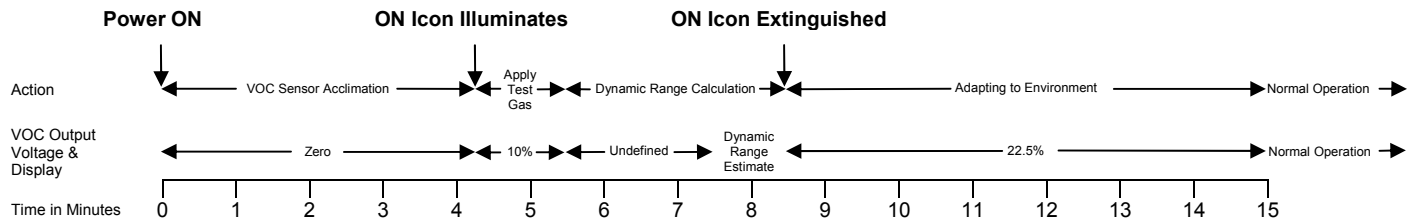

Fig 19: Sensor Start-up Timeline
At each power up, the sensor enters the start-up period for 15 minutes. The main display will show the current temperature and the minor display will show 123 for the first 15 seconds. The VOC output and display will follow the timing shown in Fig 19. Start-up time for the humidity output is 30 seconds, while the outputs for temperature and temperature setpoint are available immediately.
- A. Remove sensor power for at least one minute and reapply. The VOC sensor will set the VOC output to zero volts. Display models will indicate 0.0 on the main display and CMS, short for commissioning, on the minor display. (Power ON in Fig 19)
- D. The visual indication and the 5% output voltage confirms that the VOC sensor is in its verification/commissioning test. (Apply Test Gas period in Fig 19)
- B. Read and record the VOC output voltage or Main LCD display approximately 2 to 4 minutes following the stimulus gas application to determine the dynamic range measurement. (Dynamic Range Estimate period in figure 19)